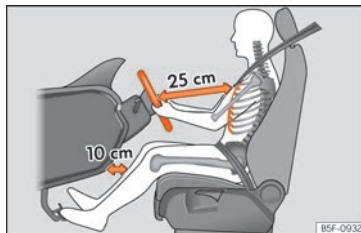

Fig. 18 The correct distance between the driver and the steering wheel must be at least 25 cm [10 inches].
- Adjust the steering wheel so that it is at a distance of at least 25 cm (10 inches) from the sternum >>> Fig. 18 and can hold it with both hands on the sides, on the outside, with the arms slightly flexed.